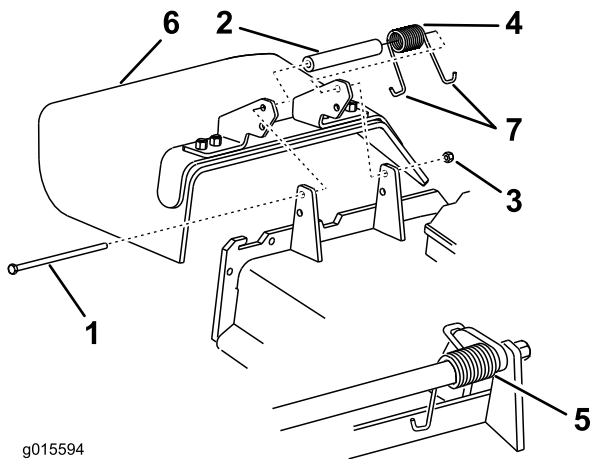

Figure 100
1. Remove the locknut, bolt, spring and spacer holding the deflector to the pivot brackets (Figure 100). Remove the damaged or worn grass deflector.
Note: Make sure one **J** end of the spring is installed behind the deck edge before installing the bolt as shown in Figure 100.
3. Install the bolt and nut. Place one **J** hook end of the spring around the grass deflector (Figure 100).